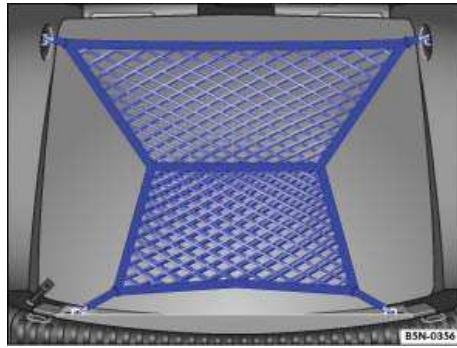

Fig. 106 In the luggage compartment: Luggage net hooked in place.
- First secure the luggage net hooks to the tie-downs at the rear seat backrest ⇒ fig. 106 ⇒ ⚠. The luggage net pocket opening must face upwards.
- Secure the luggage net hooks to the tie-downs at the loading edge of the luggage compartment ⇒ fig. 106.
Then secure the short luggage net hooks to the tie-downs at the loading edge of the luggage compartment ⇒ fig. 106 ⇒ ⚠. The luggage net pocket opening must face upwards.